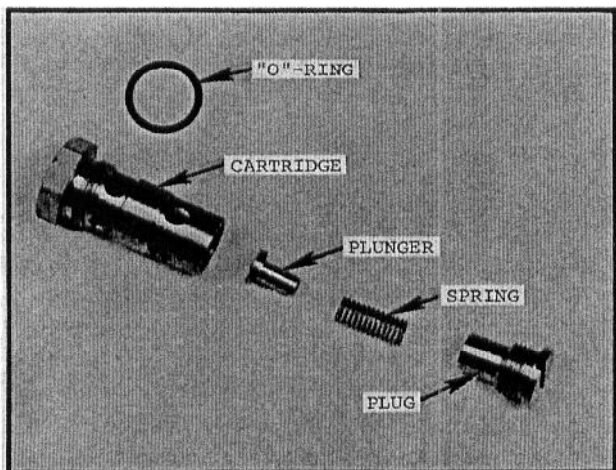

Fig. 16 — Disassembled One-Way Check Valve
2. Service the one-way check valve installed in inlet port plate as follows ... see Fig. 16: